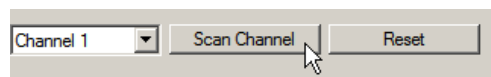

Figure 73: LINX Configurator software, scan DALI Channel.
2. Select the DALI channel and click on the **Scan Channel** button shown in Figure 73.